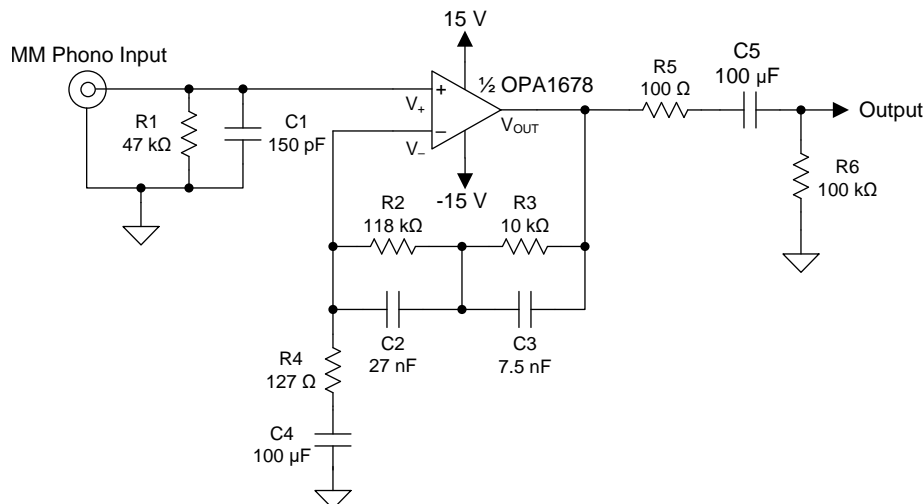

Figure 38. Phono Preamplifier for Moving Magnet Cartridges (Single-Channel Shown)
The noise and distortion performance of the OPA167x family of amplifiers is exceptional in applications with high source impedances, which makes these devices a viable choice in preamplifier circuits for moving magnet (MM) phono cartridges. Figure 38 shows a preamplifier circuit for MM cartridges with 40 dB of gain at 1 kHz.